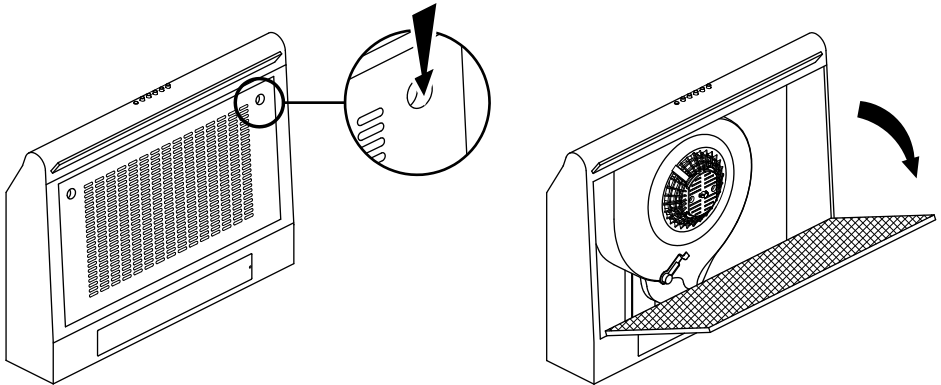

Fig.5
- Remove the filter – pull the relative catch and tilt the filter downwards until it disengages from the supports (see Fig.5).
- Remove the filter – pull the relative catch and tilt the filter downwards until it disengages from the supports (refer to Fig.5 on page 10).